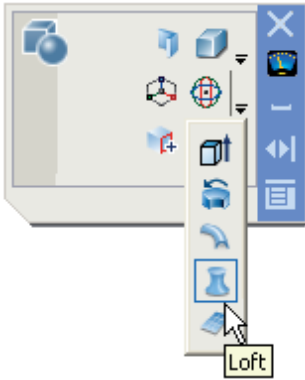

Fig. 13.39 The **Loft** tool icon in the **3D Make control panel**
The modelling tool **Loft** is new to AutoCAD 2007. To call the tool *click* on its tool icon in the **Modeling** toolbar or **3D Make control panel** (Fig. 13.39).
3. Call the **Loft** tool with a *click* on its tool icon in the **Modeling** toolbar or **3D Make control panel** (Fig. 13.39).